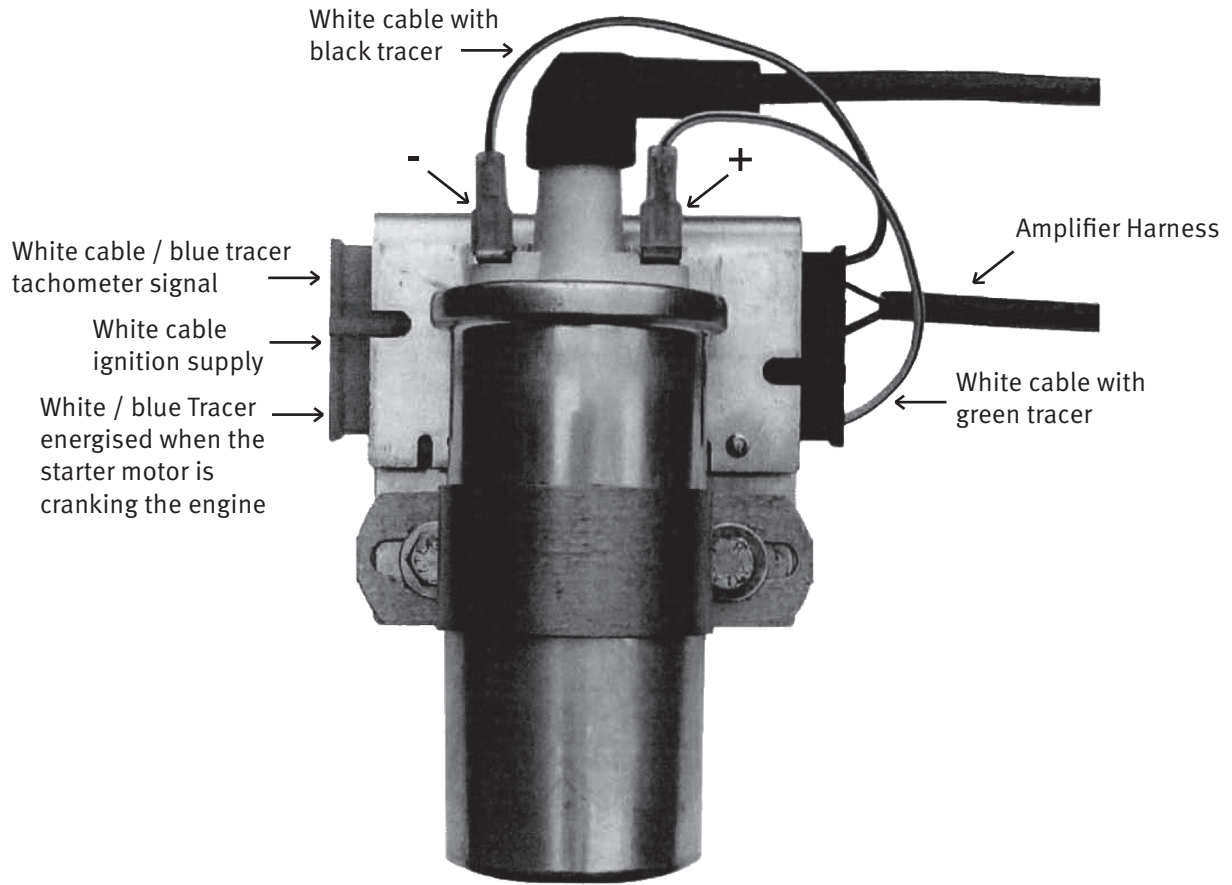

Figure 7
69. Plug the amplifier harness connector socket into the AMPLIFIER side of the resistor pack as in fig 7.
70. Attach the white and green cable from the resistor pack amplifier socket to the positive (+) terminal of the ignition coil as in fig 7.
71. Attach the white and black cable from the resistor pack amplifier socket to the negative (-) terminal of the ignition coil as in fig 7.
72. Plug the original ballast resistor supply connector socket into the supply side of the new resistor pack as in fig 7.
- i. On some installations the tachometer sensing cable (usually white with a blue tracer) will have been detached from the TACHO terminal on the resistor supply socket and connected via an in-line resistor directly or indirectly to the negative side of the ignition coil. If this is the case, the cable must be reconnected to the TACHO terminal on the resistor supply socket without the in-line resistor in circuit. The TACHO terminal on the resistor pack is the uppermost location on the left hand connector as identified in figure 7.
Attach the cables to the resistor pack as identified in figure 7 using the terminals supplied with the kit.